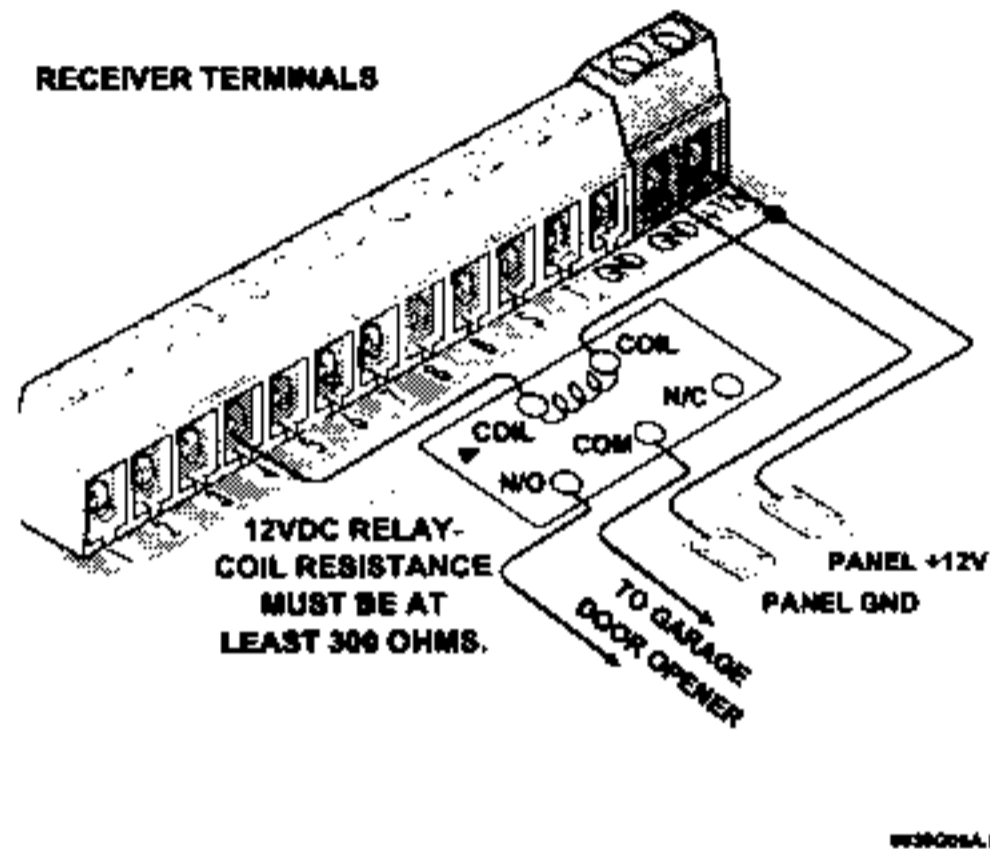

Figure 9. Connecting a Relay For Garage Door Opener Control
- 3) Connect a relay to the zone output (see Figure 9).